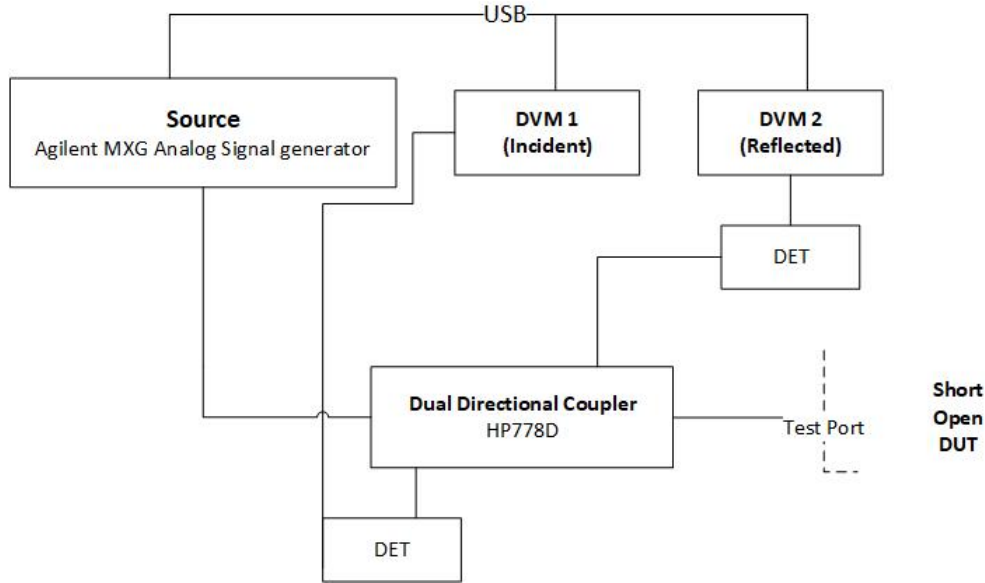

Figure 4: Scalar Reflectometer Setup
- Connect the instruments as shown in Figure 4. The measurements should be made over the 500 to 1,500MHz frequency range for every 5MHz (201 points) at 5dBm (or another appropriate power level within the square-law region of your detector).